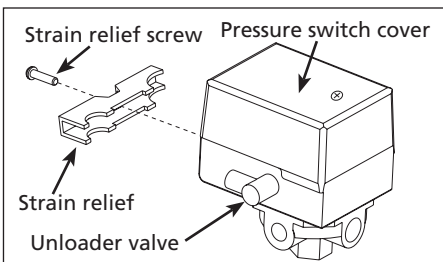

Figure 1
3. Remove the strain relief screw and the strain relief to completely separate the cord set from the switch body (See Figure 1).